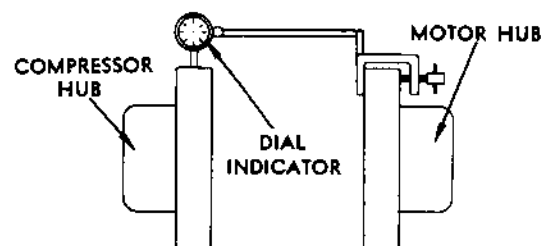

FIGURE 11 – Dial Indicator -- Parallel Alignment
1. Mount the dial indicator on the flange of the motor hub with the stem of the indicator riding on the flange of the compressor hub (see Figure 11).